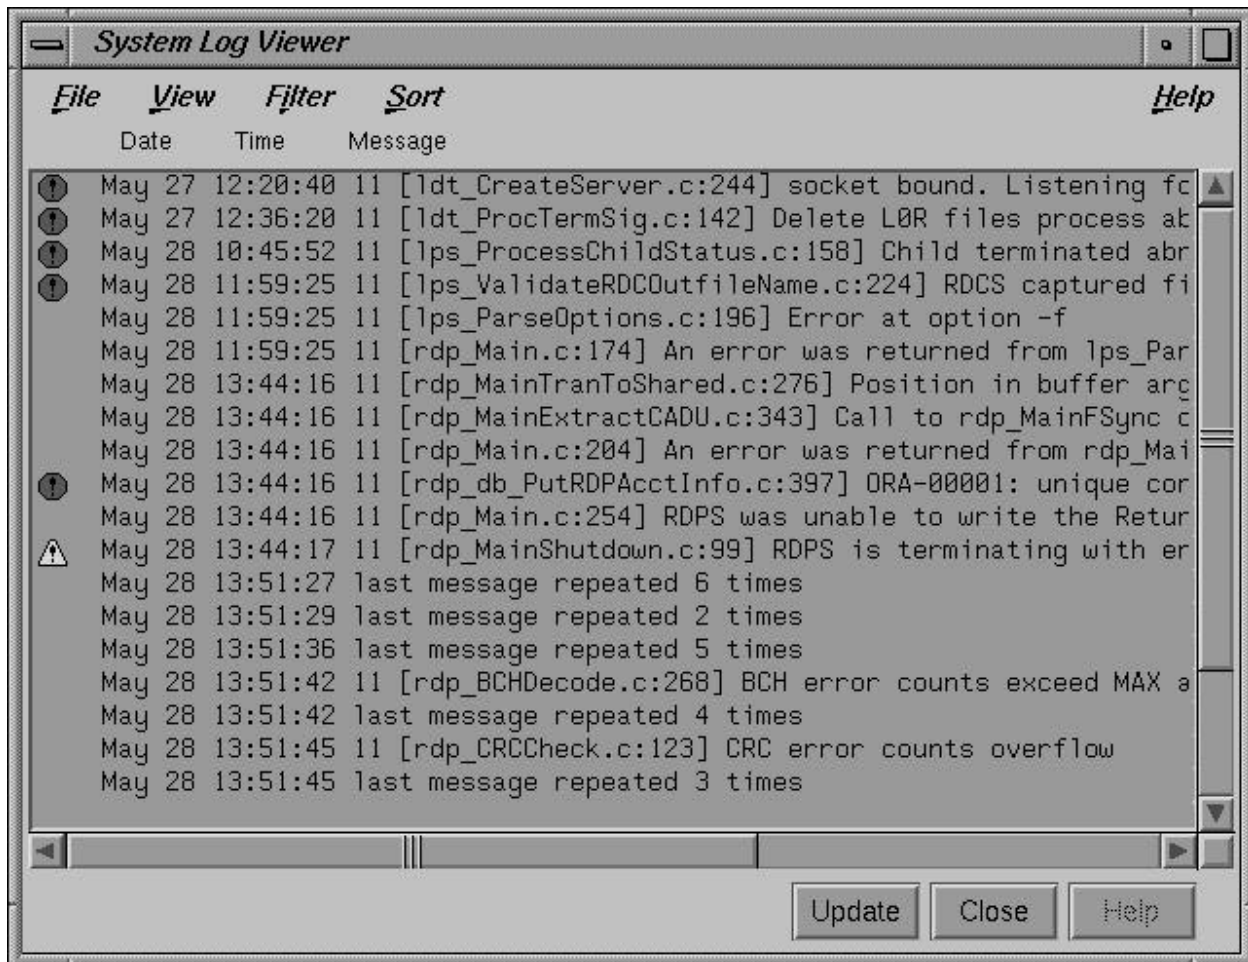

Figure 2–2. LPS Journal File Displayed by sysmon(1)
1. Select the **MONITOR>Display LPS Journal File...** menu option. The LPS GUI will bring up the IRIX `sysmon(1)` utility to display the LPS Journal file (Figure 2–2).